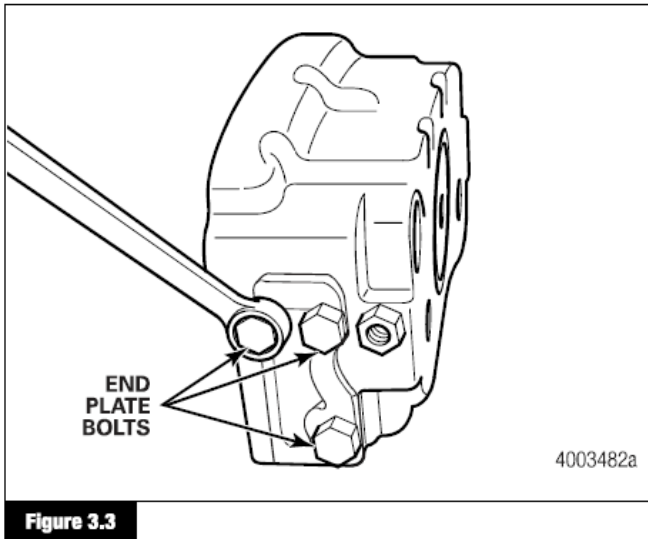

Figure 3.3
4. Separate the two lining end plates from the caliper housing half by removing the six bolts, three bolts from each end plate. Figure 3.3.